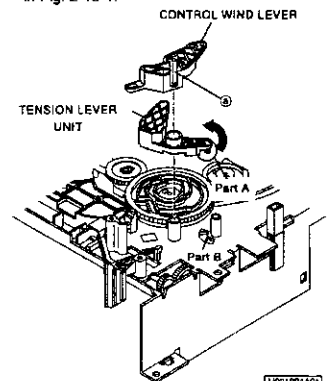

Fig. 2-18-1
- 1 Unfasten the catch (a) on the surface of the CONTROL WIND LEVER shown in Fig. 2-18-1 with tweezers, etc. to remove the CONTROL WIND LEVER.
- 2 Remove the TENSION LEVER UNIT shown in Fig. 2-18-1.
- 2 Install the TENSION LEVER UNIT shown in Fig. 2-18-1 with taking care of the following.
- Move the part A of the spring of the TENSION LEVER UNIT shown in Fig. 2-18-1 in the direction shown by the arrow. Install the TENSION LEVER UNIT so that the part A of the spring is hooked to the part B of the TENSION ARM.